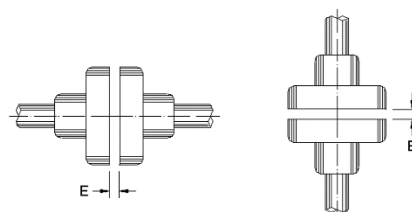

Figure 4.5: Axial clearance of the coupling (E)
Align the shaft ends carefully, and, whenever possible, use flexible coupling, leaving a minimum clearance (E) of 3 mm between the couplings, as shown in Figure 4.5.